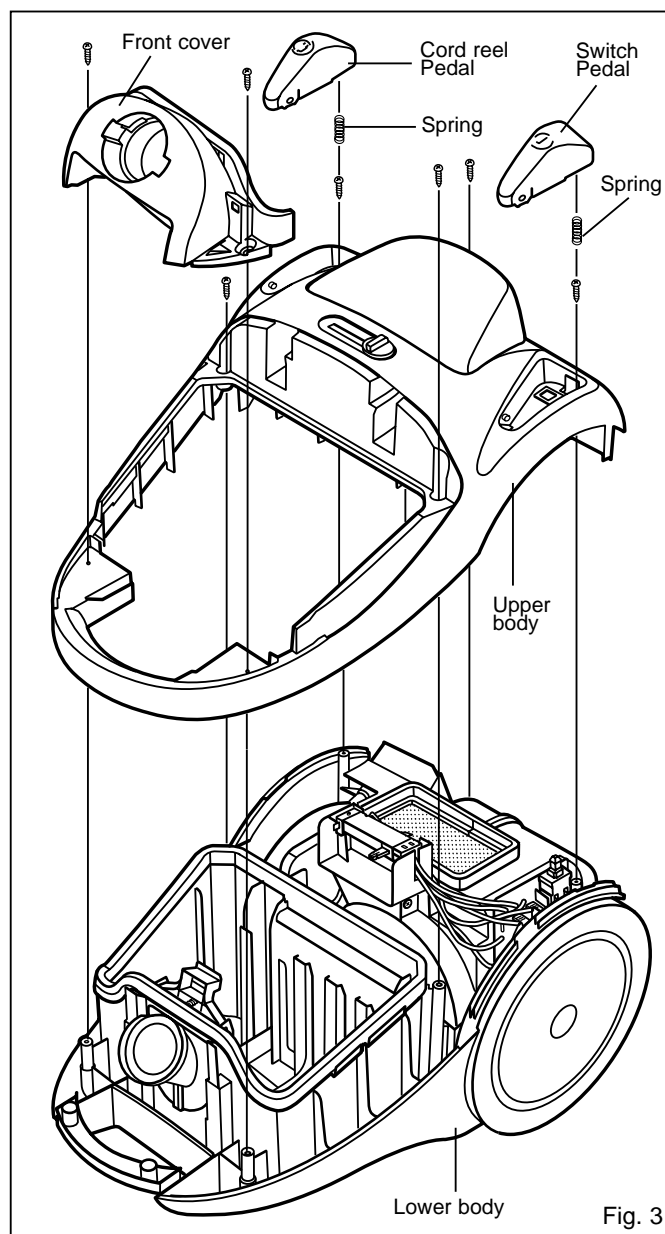

Fig. 3
3. Remove 7 screws from upper body and take out front cover and upper body. (Fig. 3)